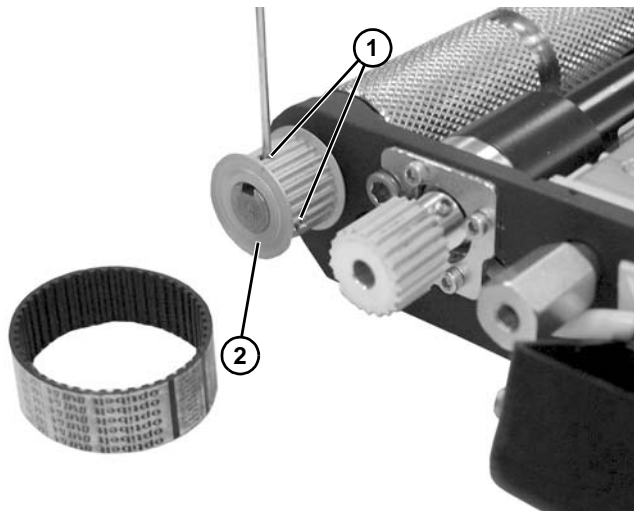

Figure 88
8. Loosen two set screws (Figure 88, item 1) on driven pulley (Figure 88, item 2), and slide off shaft to remove.